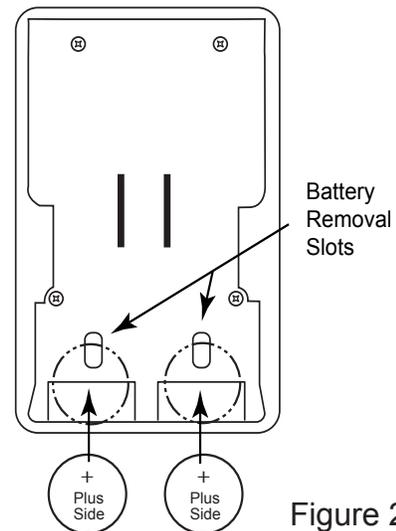

Figure 2
2. Locate the (2) holders for the 3V button cell batteries.
3. Insert a small screwdriver into the slot above the button cell battery and push the battery out. As shown in Figure 2.